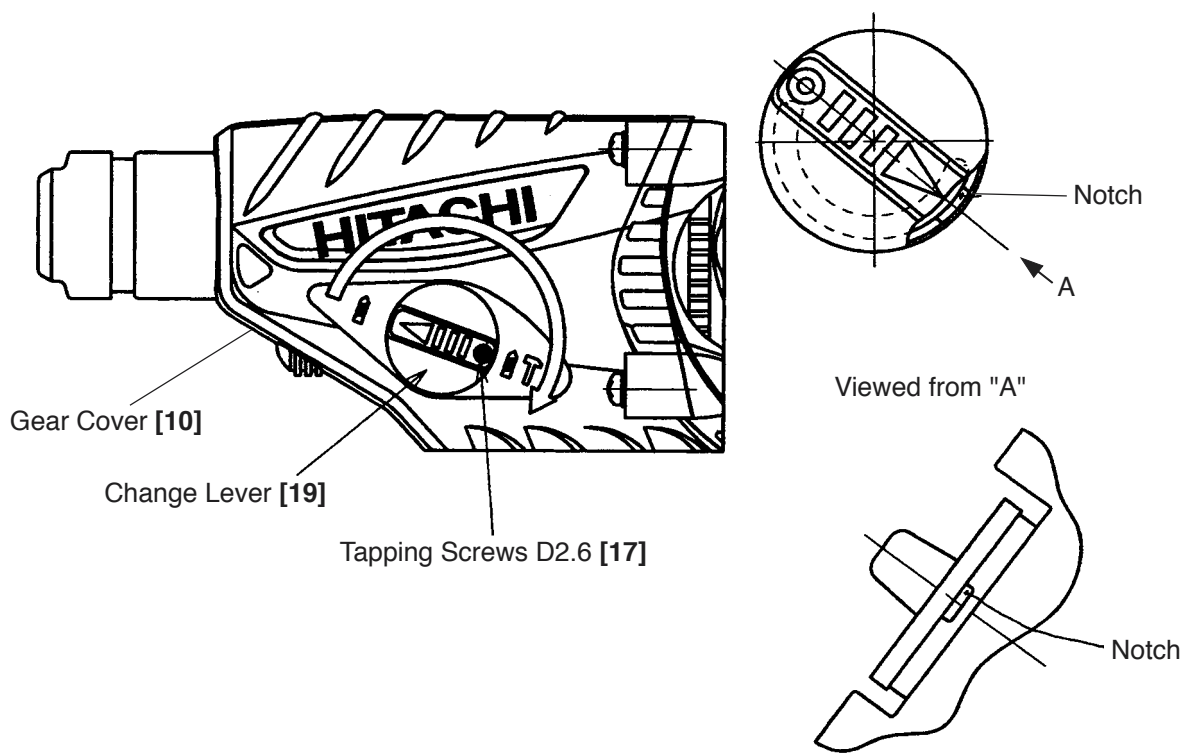

Fig. 11
(1) Disassembly of the striking mechanism section
Push in the Second Hammer **[26]** with a drill bit or a screwdriver. Remove the Striker **[34]** chucked by O-ring (C) **[31]**. The Change Lever **[19]** is positioned "Rotation Only" ( mark) as shown in Fig. 11. Remove the Tapping Screw D2.6 **[17]** and turn the Change Lever **[19]** by approximately 200° clockwise. Adjust the "△" mark of the Change Lever **[19]** to the center of the notch on the gear cover. Ply out the Change Lever **[19]** at this position. Remove the Tapping Screw (W/Flange) D5 x 25 (Black) **[9]** from the Gear Cover **[10]** and remove the Gear Cover **[10]**.